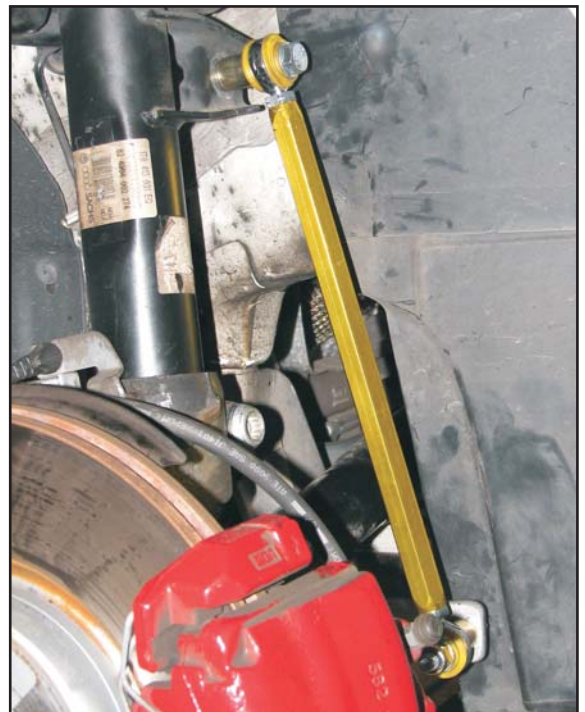

Fig 2.
2. Assemble new links, as shown in Fig 2.